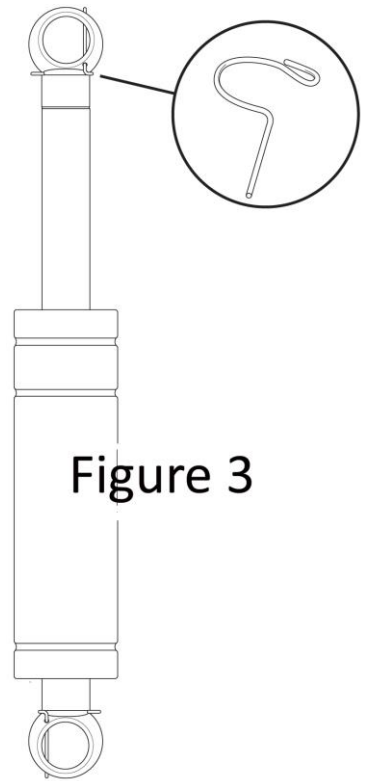

Figure 3
9. Install the stainless steel gas struts. Remove the wire keeper from each socket end of the strut (see figure 3). Apply a small amount of grease to the ball studs on the strut mounts. Install the stainless steel gas struts onto the hinge with the “body” side down. **NOTE: you will NOT be able to collapse the struts without them first being installed and using the leverage of the hood.**